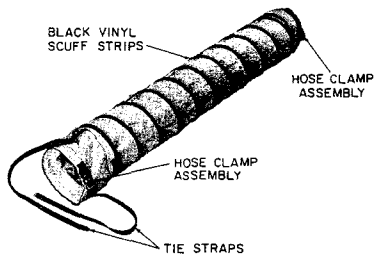

Fig. 4—C Blower Hose
2.04 The C Blower Hose (Fig. 4) is 4 feet long and has a diameter of 8 inches. It is designed to connect a blower to a manhole heater. Except for its length, it is of identical appearance and construction as the B Blower Hose. Two tie straps are provided as a means of securing the hose in a compact package for storage.